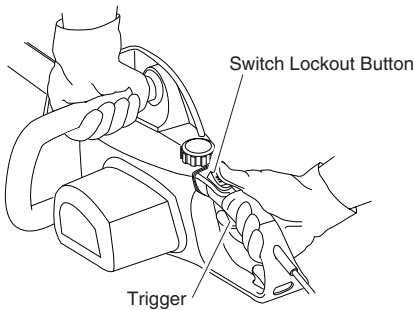

Figure 10 - Lockout Button and Trigger Location
3. Use both hands to grip saw. Always use left hand to grip front handle and right hand to grip rear handle. Use firm grip. Thumbs and fingers must wrap around saw handles (see Figure 10).
5. When ready to make a cut, push the lockout button completely forward with the right thumb and squeeze the trigger (see Figure 10). This will turn saw on. Releasing trigger will turn saw off. Make sure saw is running at full speed before starting a cut.